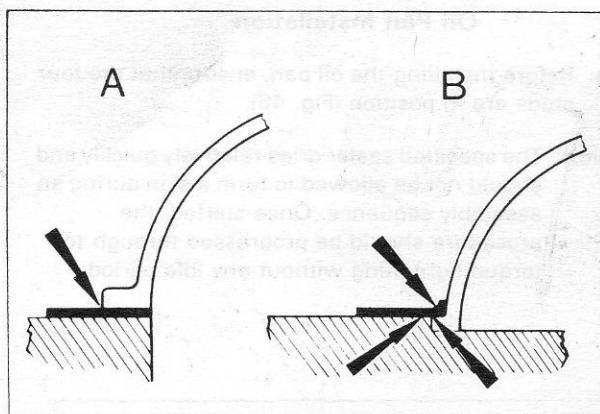

Fig. 47 - Oil Pan Gaskets and Seals Installation
57. Position the rear seal, dry, onto the rear main bearing cap then apply a small spot of specified sealer into and from each foot as shown in Fig. 47.
59. Fit the front seal in position with the feet over the gaskets, then apply a spot of sealer to the joints where the front and rear seals adjoin the gaskets (Fig. 47).